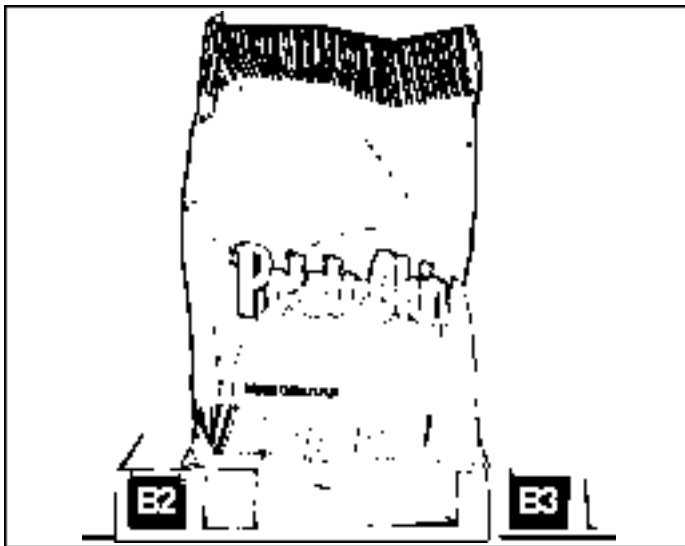

Figure 2. PLACEMENT OF PRODUCT ON MAIN PRODUCT SNACK SHELVES AND FRONT END POSITION OF SPIRAL.
**IMPORTANT:** Product must not be forced into the spiral spaces but should fit freely. If the product is too tight, use a larger pitch spiral. The bottom of the product should be placed on top of the spiral wire that rests on the shelf surface (see Figure 2). The width of the product must be greater than the diameter of the snack spiral. If it is smaller, the product may fall through when it is in the front, ready to vend position.